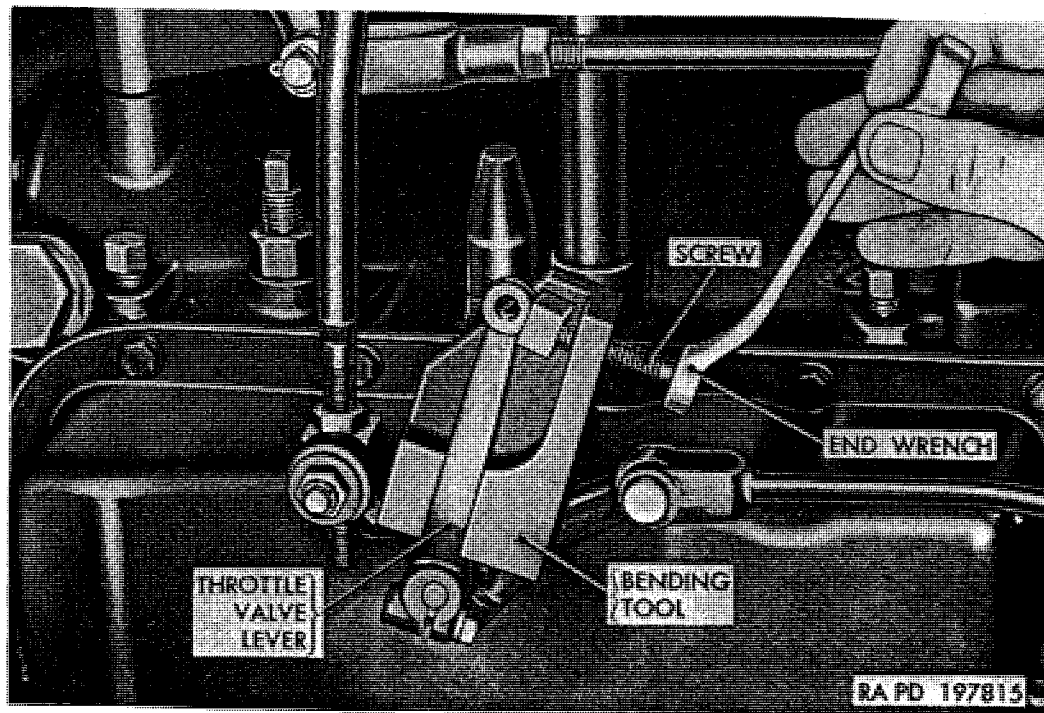

Figure 195. Using tool C7950171 to bend throttle valve lever.
- (c) If clevis pin cannot be freely inserted through hole in throttle valve lever and hole in gage B7950168, bend throttle valve lever with bending tool C7950171. Place bending tool on lever as shown in figure 195, or on opposite side of lever depending on direction bend is required. Turn screw in tool with wrench to bend lever.
(c) If clevis pin cannot be freely inserted through hole in throttle valve lever and hole in gage B7950168, bend throttle valve lever with bending tool C7950171. Place bending tool on lever as shown in figure 195, or on opposite side of lever, depending on direction bend is required. Turn screw in tool with wrench to bend lever.